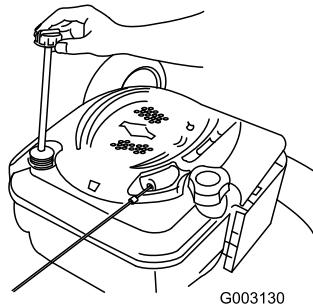

Figure 40
- Retirez la jauge (Figure 40).